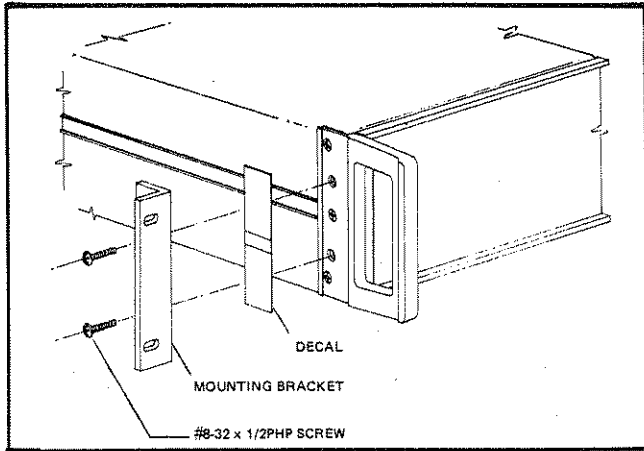

Figure 6-2. RACK MOUNTING BRACKET INSTALLATION
- b. Peel the decal shown in Figure 6-2 from each front side panel.